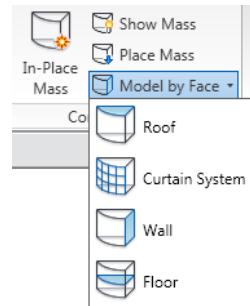

Figure 231: Model by Face drop-down button in Revit Architecture 2010.
A drop-down button expands to show two or more commands in a drop-down menu. Each sub-command can have its own large icon (see Figure 231 below.)
- The top label SHOULD sufficiently describe the contents of the drop-down list. For example, in Figure 231, Roof, Curtain System, Wall and Floor are all ways of modeling by face.)